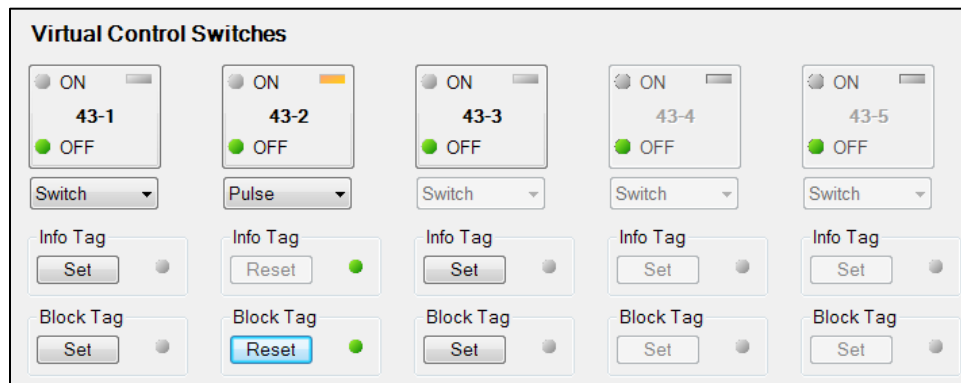

Figure 23-1. Virtual Switches Control Screen
1. Use the Metering Explorer to open the Control/Virtual Switches tree branch (Figure 23-1).
2. If Switch/Pulse mode is selected on the Virtual Control Switches (43) settings screen in BESTCOMSP_{Plus}, use the drop-down box to select either Switch or Pulse.
Tagging of virtual control switches can be accomplished through the front panel and through BESTCOMSP_{Plus}. Use the Metering Explorer in BESTCOMSP_{Plus} to open the Control/Virtual Switches tree branch. Click on the Set button for Info Tag or Block Tag. If tagging is successful, the indicator to the right of the Set button will turn green. A tagged switch is indicated by an amber indicator in the upper right corner of the element button. Click on the Reset button to clear a tag. Refer to Figure 23-1.